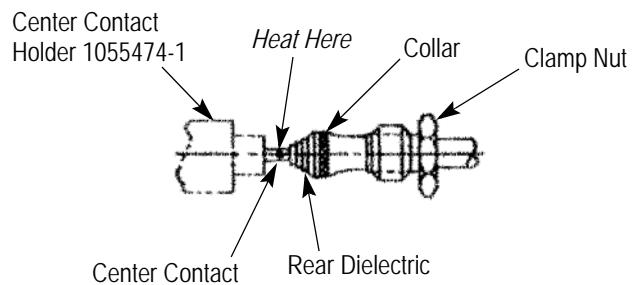

Figure 5
**2.3. Soldering the Center Contact to the Cable Inner Conductor (Figure 5)**